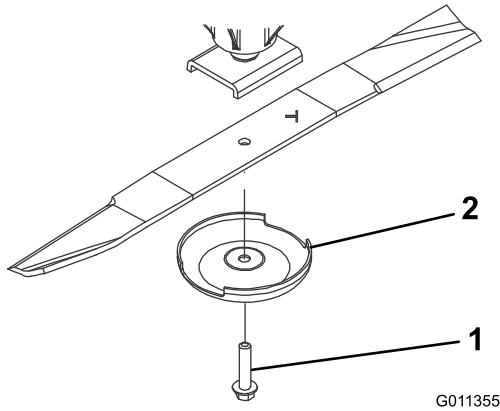

Figure 67
2. Grasp the end of the blade using a rag or thickly padded glove. Remove the blade bolt, anti-scalp cup, and blade from the spindle shaft (Figure 67).
3. Install the blade, sail facing toward the cutting deck, with the anti-scalp cup and blade bolt (Figure 67). Tighten blade bolt to 115–149 N-m (85–110 ft-lb).